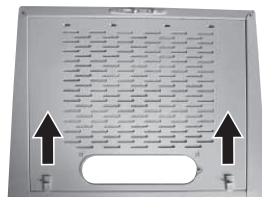

Fig. 1
1. Remove the lower metal cover of the appliance by sliding the lastic catches (Fig. 1).
1. Remove the lower metal cover of the appliance by sliding the plastic catches (Fig. 1).